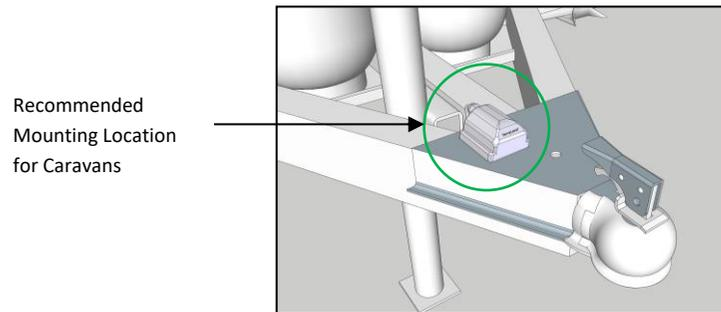

Figure 1
SavvyLevel MUST be mounted level horizontally (less than 15°). It also must be straight and forward (**NOT ANGLED WITH THE 'A' FRAME**) – see *Figure 1 and 2*.
**Make sure the base plate is mounted parallel to the caravan and NOT the 'A' frame. It must also be mounted level horizontally.** Figures 1, 2 and 6 show correct mounting.